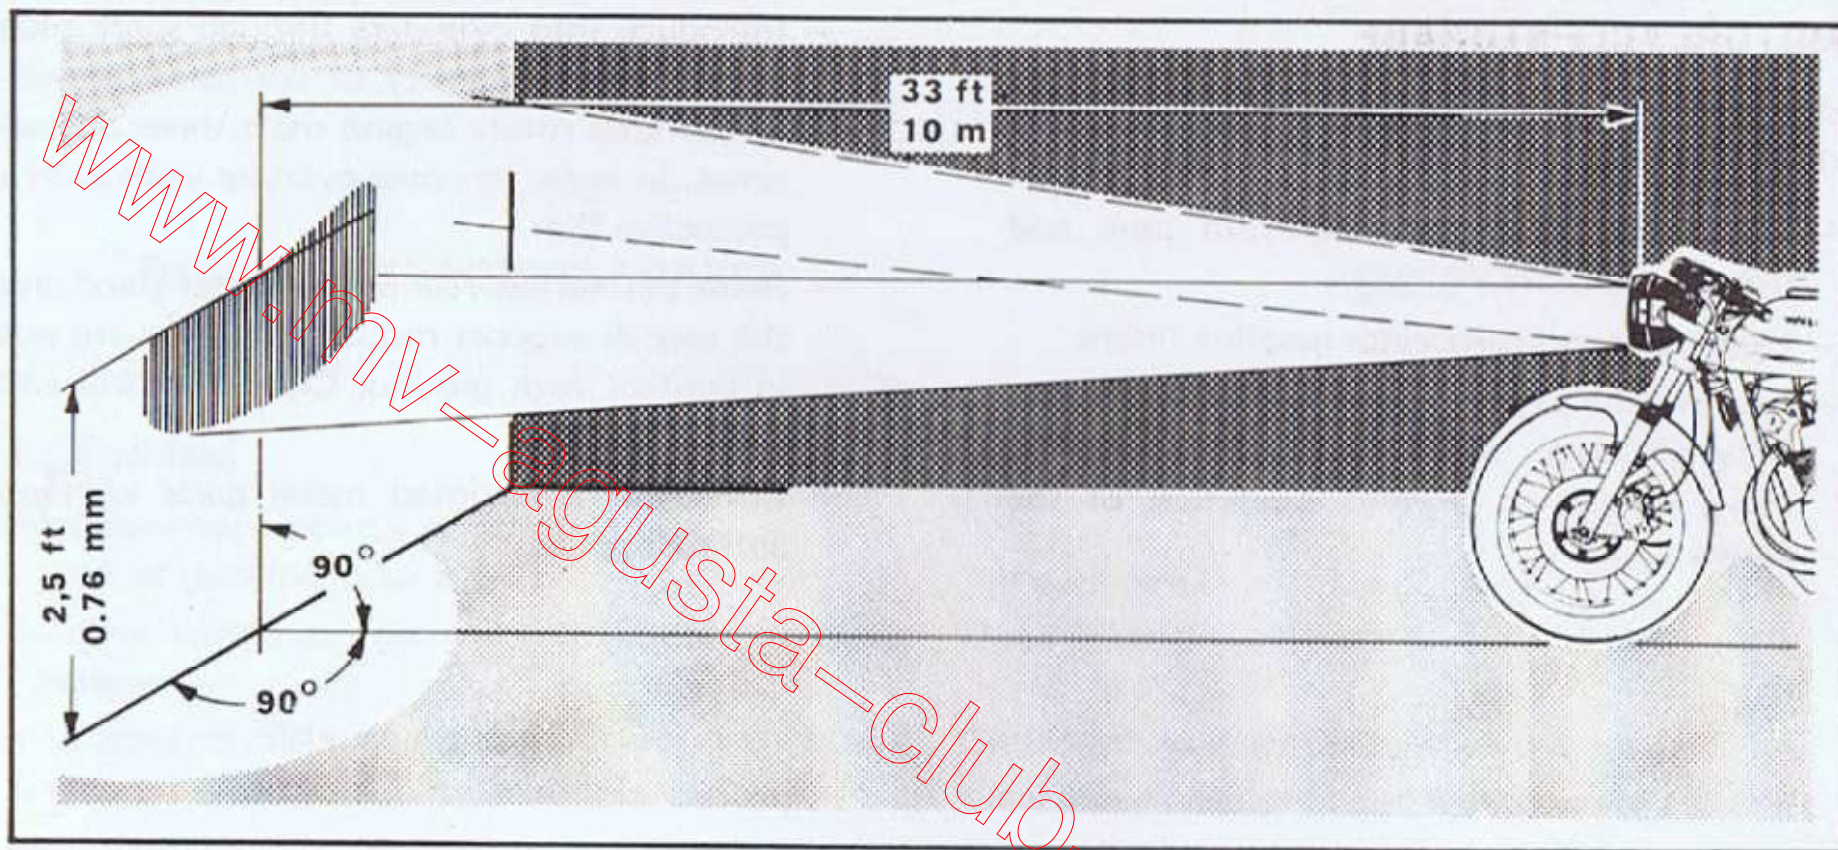

Figure 3-20. Headlight adjustment
(See figure 3-20)
- b. Have the wheels well aligned and, observing the conditions shown in figure 3-20, switch on the driving beam and adjust it horizontally and vertically.
- c. Switch on passing beam and adjust the beam upper edge to the height shown in figure 3-20.